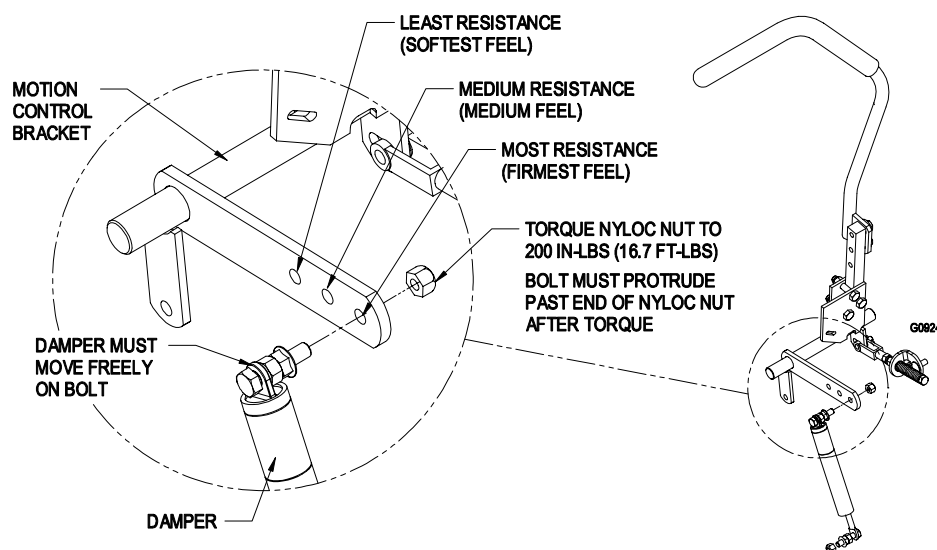

FIGURE 15
- a) The top damper mounting bolt can be adjusted to obtain a more desired motion control lever resistance. See Figure 15 for mounting options.